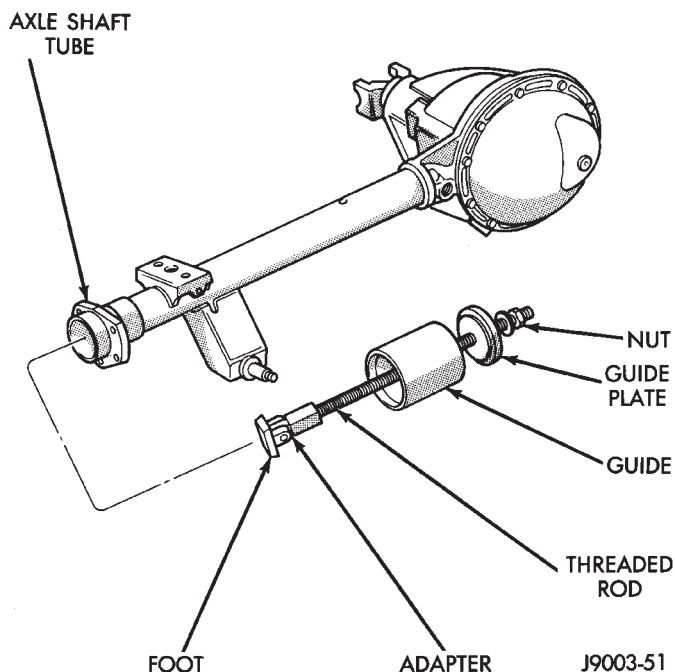

Fig. 25 Axle Shaft Bearing Removal
- (3) Remove the axle shaft bearing from the axle tube with Bearing Removal Tool Set 6310 using Adapter Foot 6310-5 (Fig. 25).
(4) Inspect the axle shaft tube bore for roughness and burrs. Remove as necessary.